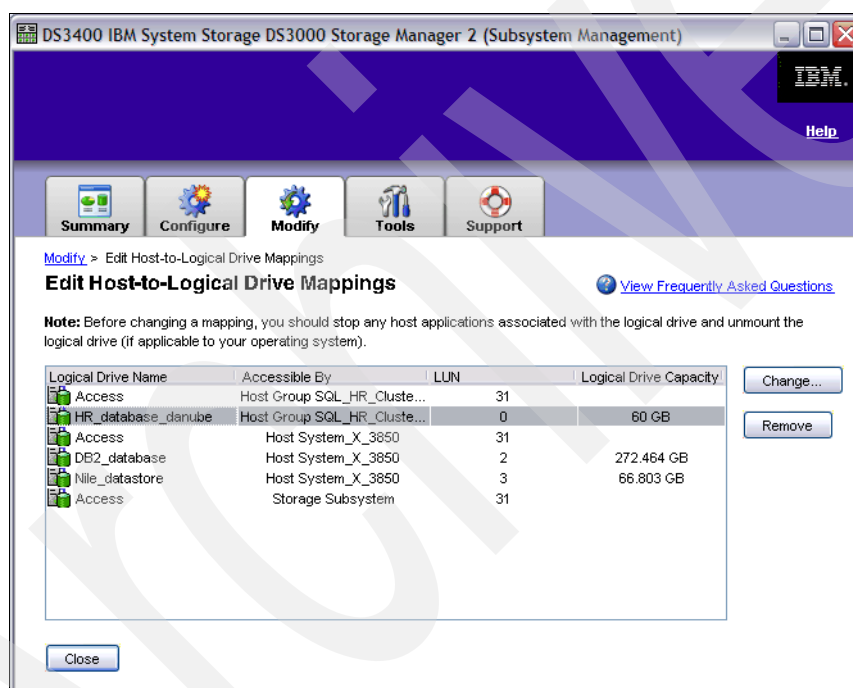

Figure 11-12 Edit Host-to-Logical Drive Mappings
1. Click **Edit Host-to-Logical Drives Mapping** (Figure 11-1 on page 222) to open the associated view (Figure 11-12).
1. Click **Edit Host-to-Logical Drives Mapping** (Figure 11-1 on page 222) to open the associated view (Figure 11-12 on page 229).